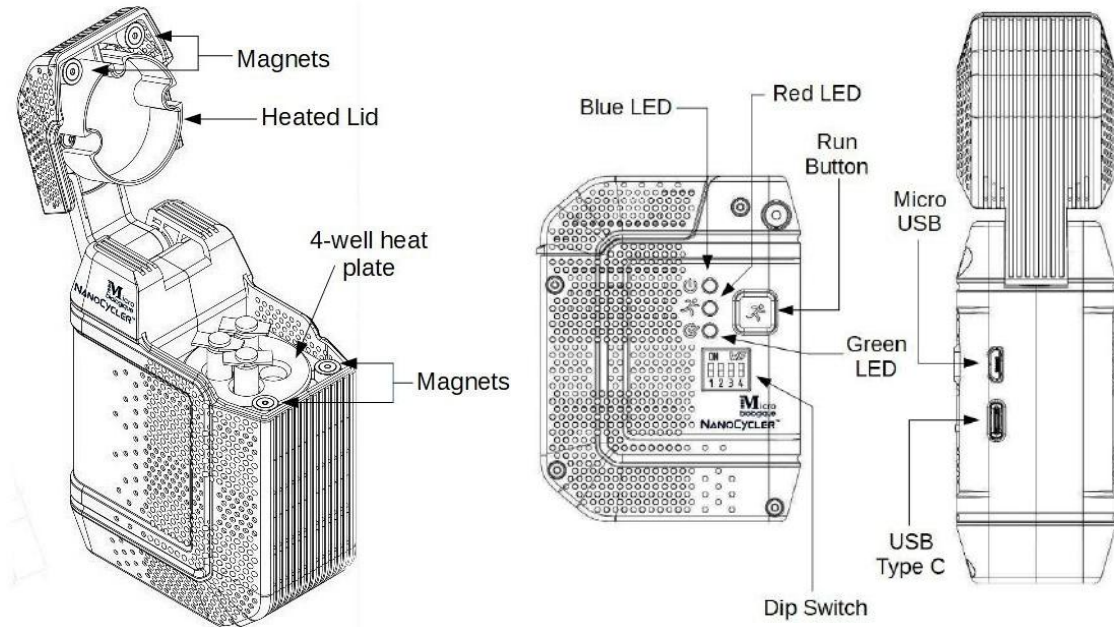

Figure 1: WATSON external and internal parts
- The WATSON package includes one WATSON (Figure 1), one 5V 3A ACE power adaptor, one USB power bank, One Micro USB to USB Cable for data.